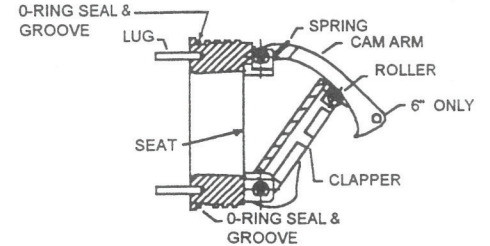
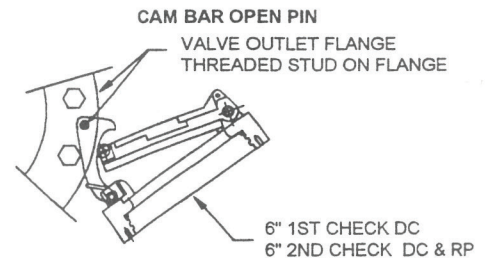

FIGURE 5A
FIGURE 5B
3. To clean #1 Cam-Check (except 2 1/2" - 4" DC Check), locate the Cam Arm opening stud on the outlet flange of the valve assembly. Slide the Cam Arm over the stud with the check threads facing downward (figure 5A). Tighten 1/4" nut on stud to secure cam bar. Slowly pull the assembly outward to open check allowing exposure of the seat and clapper contact area for cleaning. To clean #2 Cam-Check, lift Cam Arm and hold in open position. Raise clapper so that the end of the Cam Arm rests between roller and clapper (figure 5B). Thoroughly clean the seat area and clapper sealing surfaces of both Cam-Checks. Rinse Cam-Checks and O-rings thoroughly. Inspect seats, clapper sealing surfaces, Cam Arms, and O-rings for damage, nicks, and debris. If not damaged, gently close the clapper. If damaged, install a new Cam-Check assembly and/or O-ring.